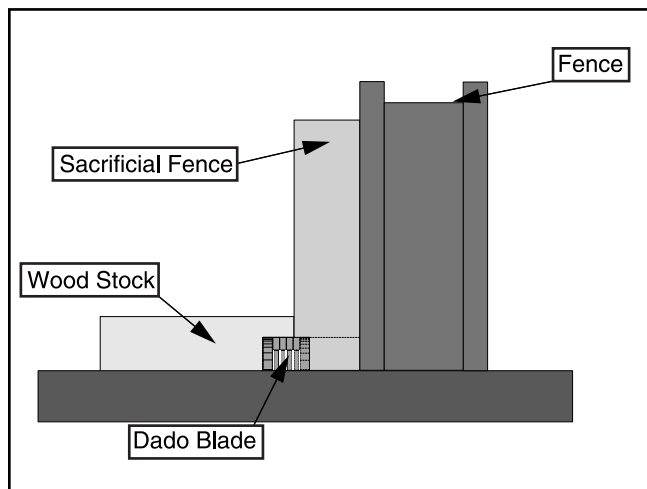

Figure 59. Rabbet cutting.
5. If rabbeting along the length of your workpiece, adjust the distance between the fence and the outside edge of the blade to suit your needs as shown in **Figure 59**. When cutting across the wood grain, use the miter gauge as a guide while rabbeting. **Remember:** never use the fence as a stop in conjunction with your miter gauge.